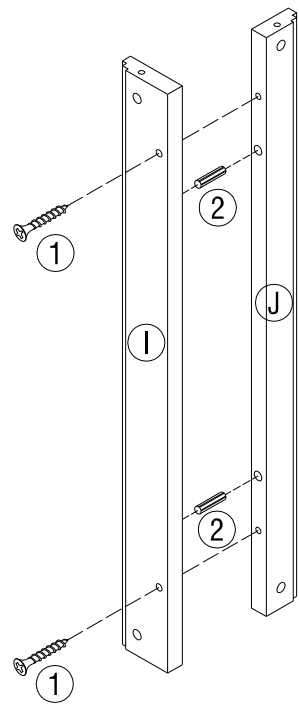

FIGURE 7
10. ASSEMBLE LOWER CABINET (INCLUDED PARTS “I, J, K, L, M, N, O, P, R”) IN SAME MANNER AS STEP 3-9. AS SHOWN IN FIGURES 7, 8, 9 & 10.